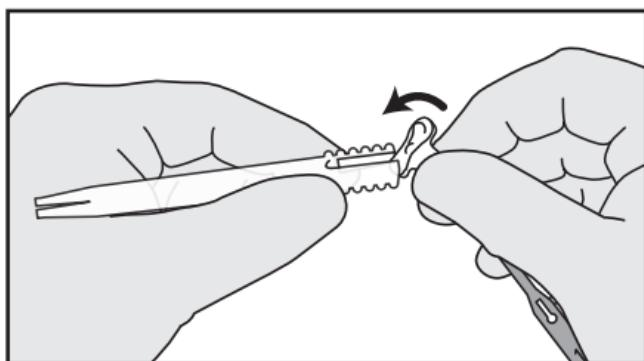

Figure 5
3. Fold the esophageal flange forward by pinching it together between thumb and index finger. Hold the loading tube with your other hand. Insert the folded esophageal flange of the prosthesis into the slit of the loading tube (Fig. 5).